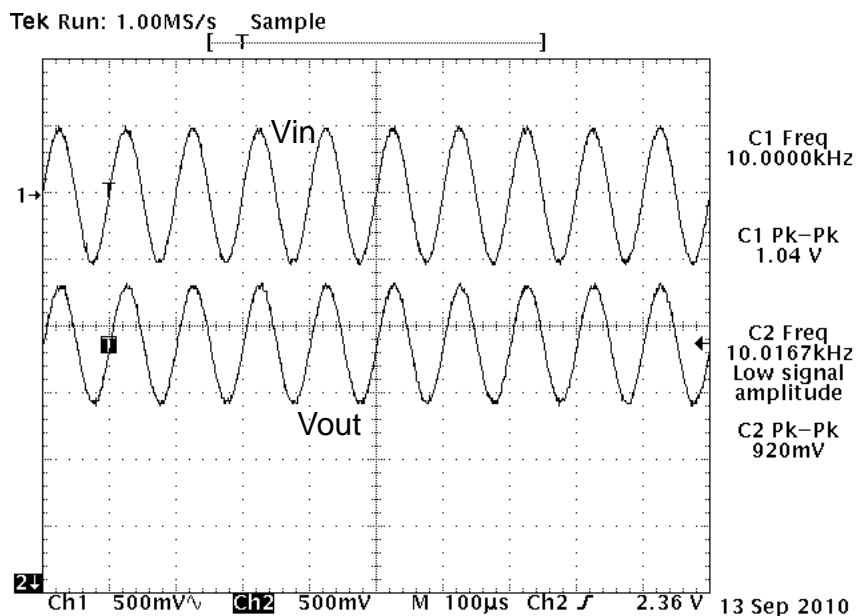

Figure 17. Circuit 3 Waveform (Vin = 1Vpp, 10 kHz)
7. Figures 17–21 show the various analog signal responses of Circuit 3.